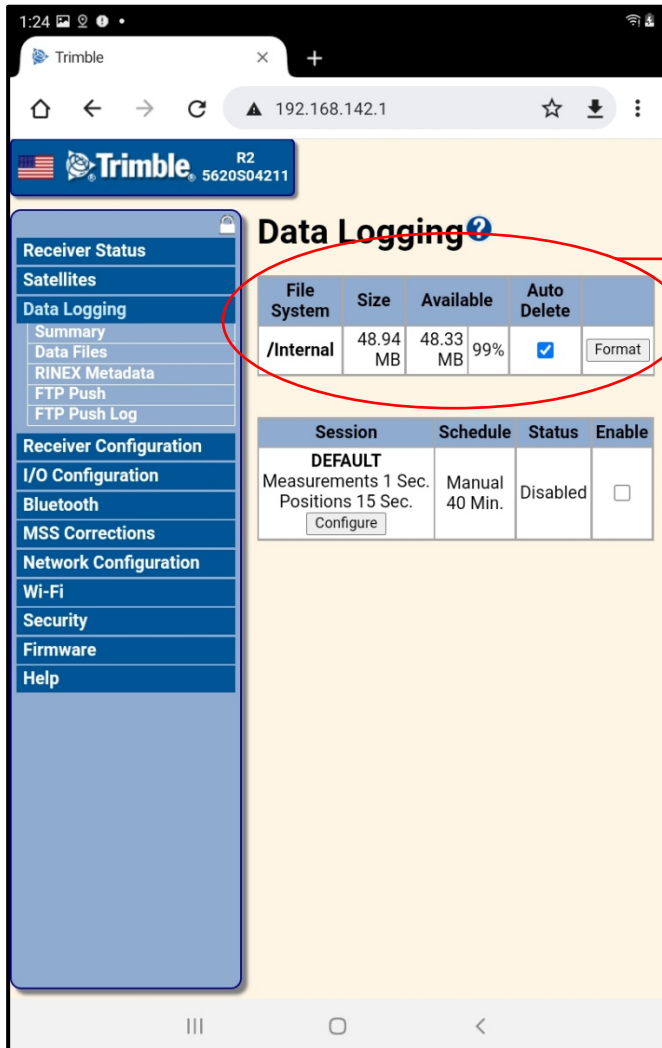

Figure 26. Trimble R2 “Show Classic Web GUI” Banner and Trimble R2 Login Page
3. Open the URL using **Google Chrome** to access the GPS on your mobile device (Figure 26)